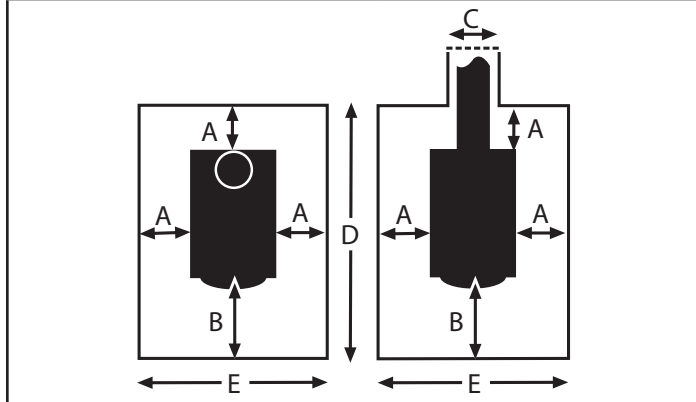

Figure 4.11 - These dimensions are minimum requirements only. Use greater dimensions whenever possible.
U.S. Installations: The floor protector is required under the stove and must extend at least 16" from the front of the stove (B, Figure 4.11), and at least 6" from the sides and rear (A, Figure 4.11). It must also extend under the chimney connector and 2" to either side. (C, Figure 4.11)
In Canada: A noncombustible floor protector is required under the heater. The floor protector must extend 18" (457 mm) to the front (B, Figure 4.11) and 8" (203 mm) from the sides and rear. (A, Figure 4.11)